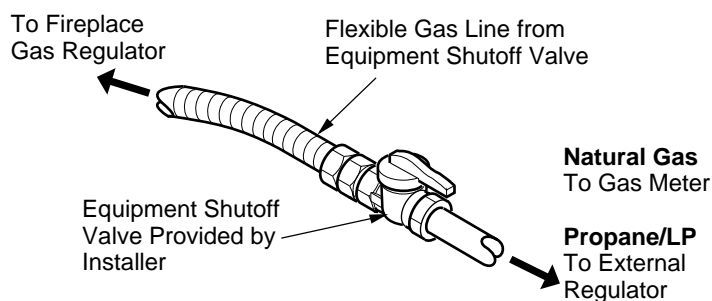

Figure 20 - Attaching Flexible Gas Lines Together
NOTICE: Most building codes do not permit concealed gas connections. A flexible gas line is provided to allow accessibility from the fireplace (see Figure 20). The flexible gas supply line connection to the equipment shutoff valve should be accessible.
4. Attach flexible gas line to gas supply (see Figure 20). Check connection of flexible gas line attached to gas regulator of fireplace (see Figure 20).